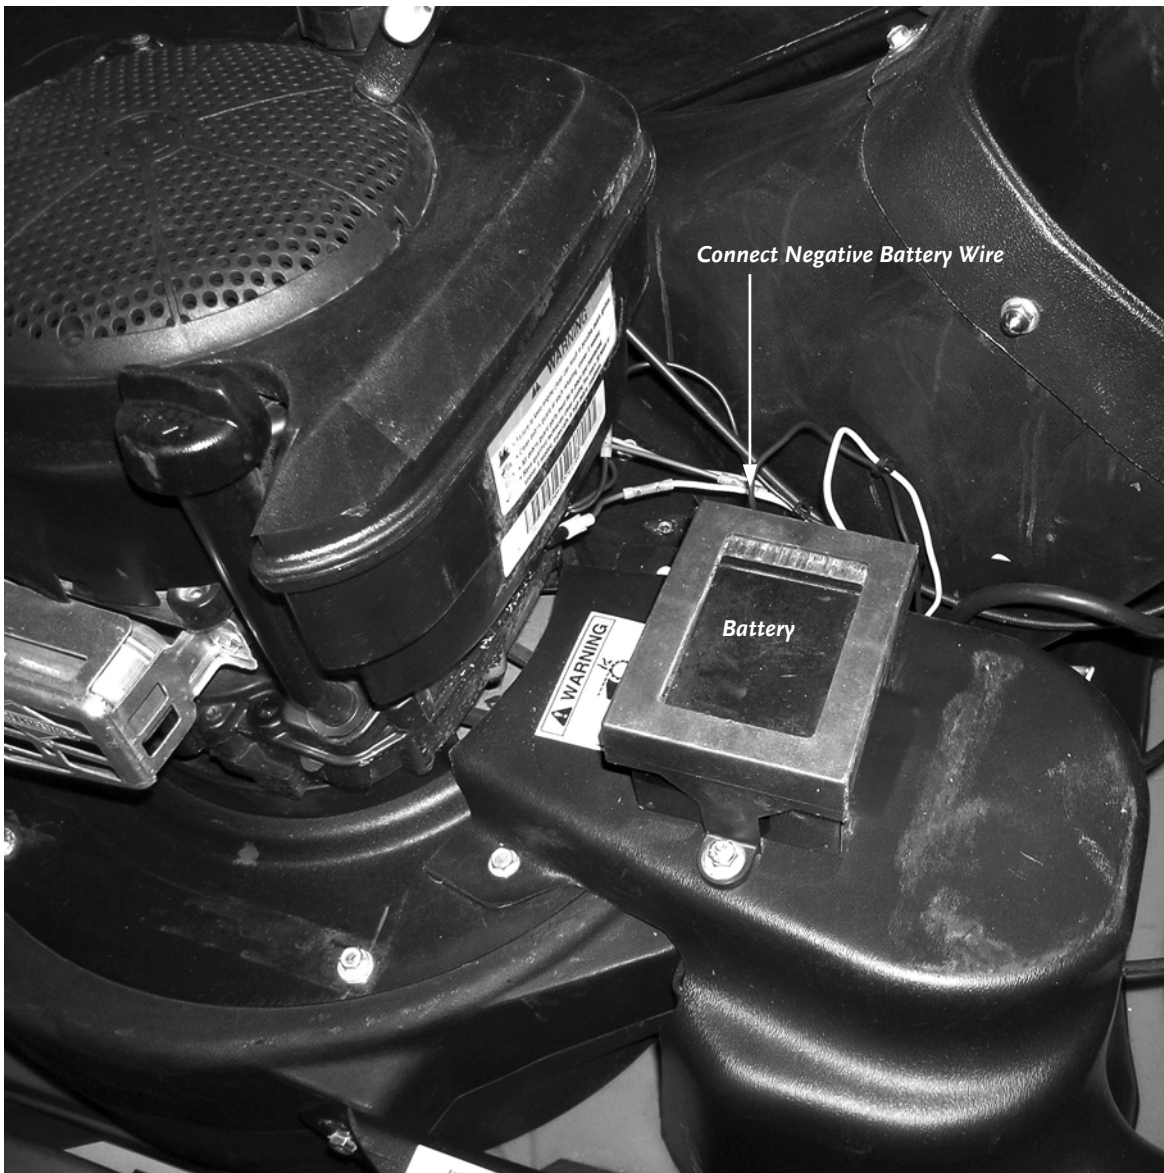

Figure 9
1. Connect the negative wire to the negative terminal on the battery (**Figure 9**).
2. Using the two (2) Cable Ties provided, group the wires in a bundle and tie them to the Right Upper and Lower Handle Brace.